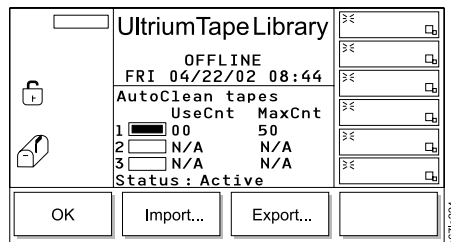

Figure 177. AutoClean Dialog
3. Press the button below the **AutoClean** softkey. The AutoClean Dialog displays (see Figure 177).